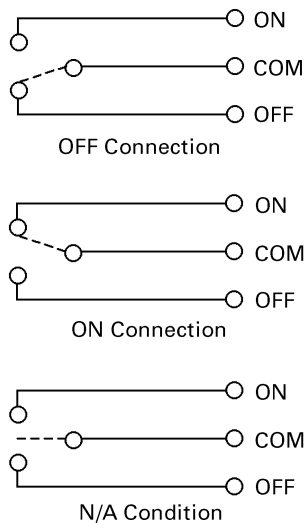
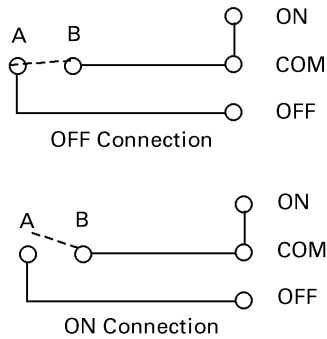
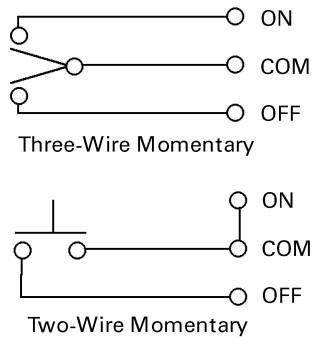

Figure 1. Three-wire maintained connections.
Figure 2. Two-wire maintained connections.
Figure 3. Three-wire and two-wire momentary connections.
- Standard three-wire connection or two-wire with jumper, as illustrated in Figure 1, Figure 2, and Figure 3.